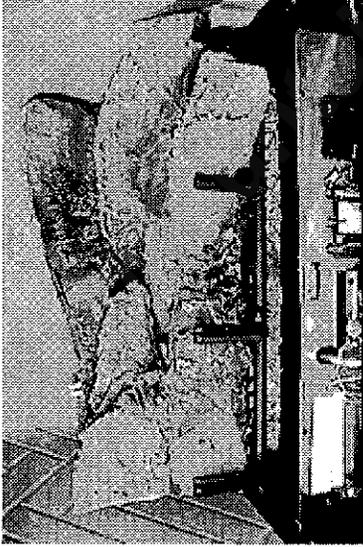

Figure 3.2 Front log/grate Assembly
- Remove the top log and set aside. Remove the front log/grate assembly by removing two screws. See Figure 3.2. Carefully pull the assembly up to remove and set aside.